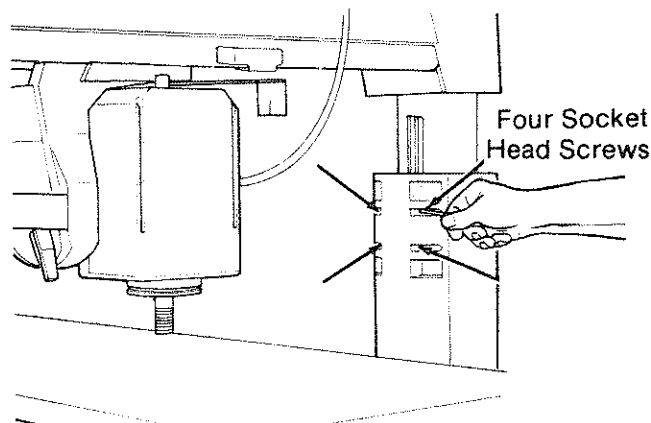

Fig. 96
1. Use a 3/16" hex "L" wrench to loosen the four screws in the front of the *column support*. (Figure 96)
3. If movement seems smooth and the *column* does not rock back and forth, use a 3/16 allen wrench to retighten the four screws in the front of the column support. (Figure 96). Do not over tighten or it will be difficult to raise and lower the radial arm. After completing these steps go on to the next section, **or**